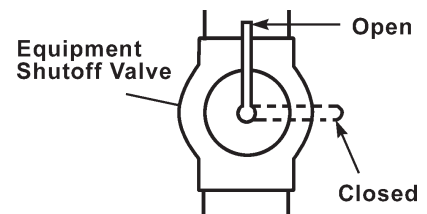

Figure 17 - Equipment Shutoff Valve
1. Close equipment shutoff valve (see Figure 17).
1. Open equipment shutoff valve (see Figure 17).
5. Check all joints from equipment shutoff valve to control valve (see Figure 17). Apply mixture of liquid soap and water to gas joints. If bubbles form, there may be a leak.